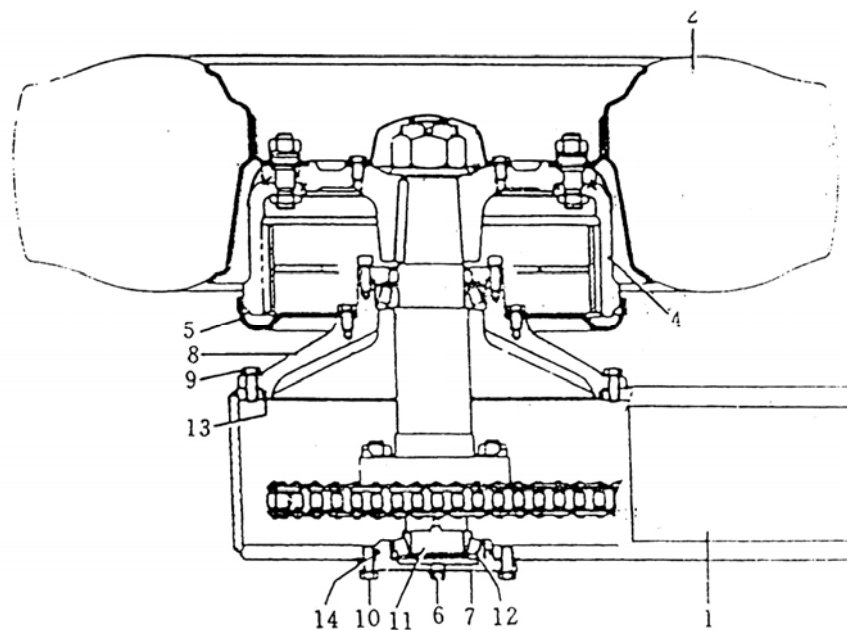

Fig. 53
8.7 Adjust the chain of tandem box (Fig. 53)